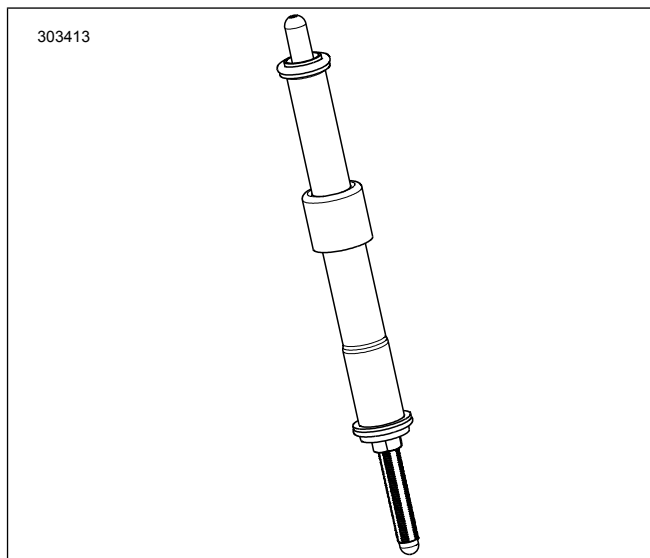

Figure 2. Pushrod Installed into Pushrod Cover
7. Figure 2 Install the intake pushrods into the pushrod covers. Replace O-rings, lower pushrod cover and spring cover keeper with new components supplied in kit. Be sure adjuster end of pushrod is down.